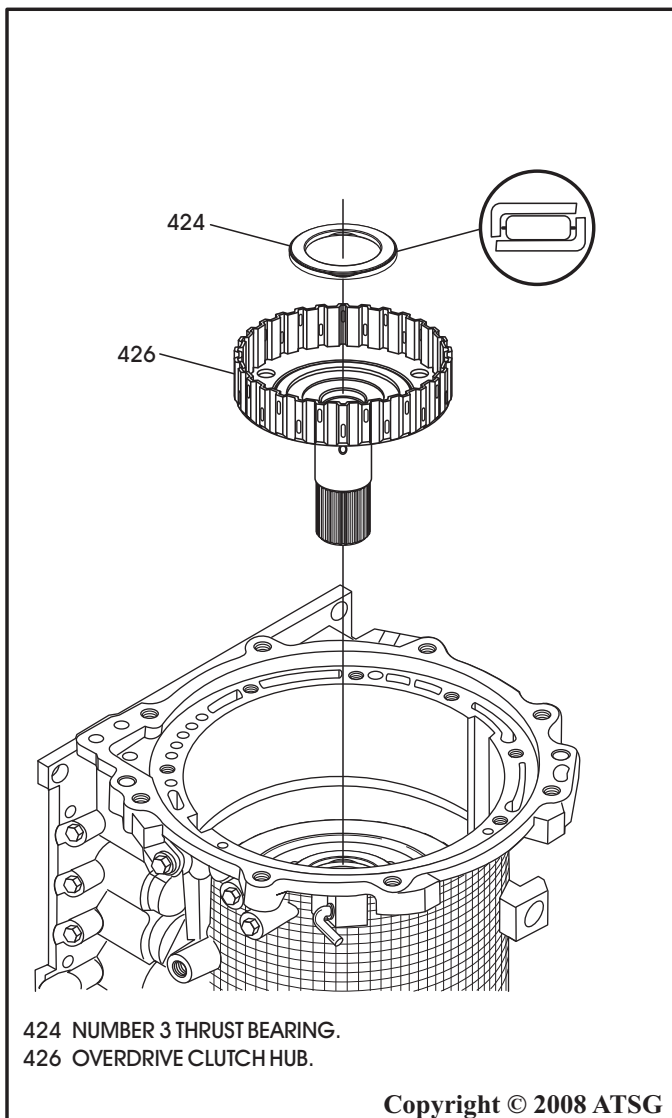

Figure 204
51. Install number 3 thrust bearing on overdrive clutch hub, as shown in Figure 204, and retain with small amount of Trans-Jel®.
52. Install the overdrive clutch hub assembly into transmission, as shown in Figure 204.